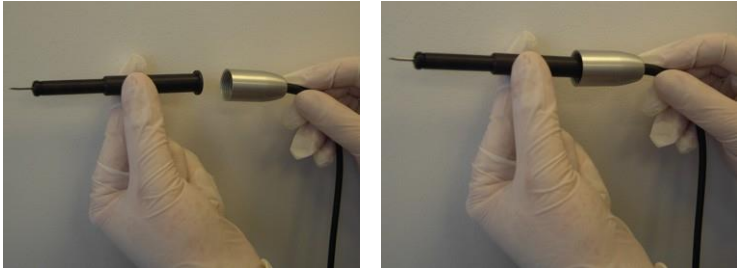

Figure 3-71. Inserting the Blade Holder into the Handpiece Base
5. Insert the blade holder into the handpiece base, as shown in Figure 3-71.